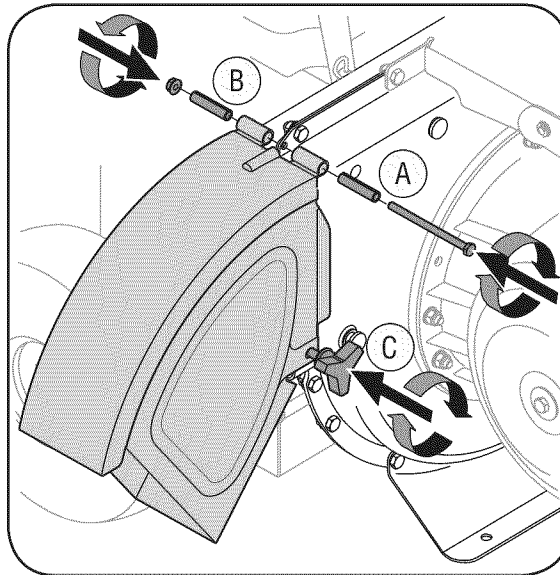

Figure 3-4
4. a. Align the chute deflector in position on the discharge opening and insert hex bolt with spacer through hinge on chute deflector (spacers fit inside of hinges). See Figure 3-4.